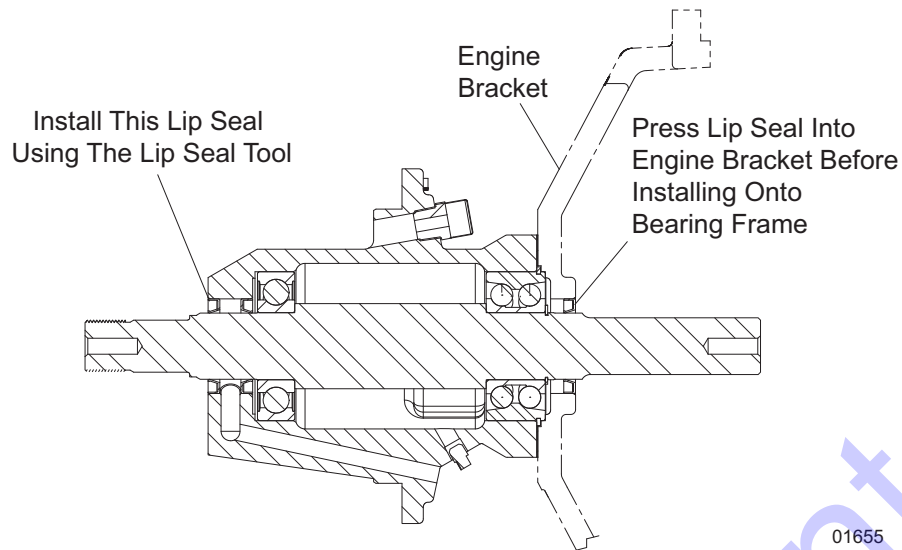

Figure 4-6. Installing the Lip Seals
3. Apply a thin film of aviation sealant to the outside diameter of the drive end lip seal and press it into the engine bracket. Refer to **Figure 4-6**.